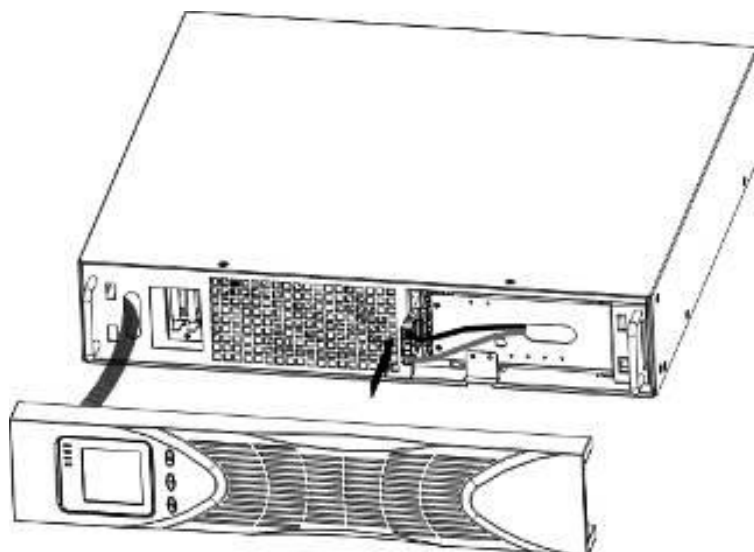

Figure 5 Connecting the UPS Internal Batteries
- b) Connect the internal battery connector (see Figure5)